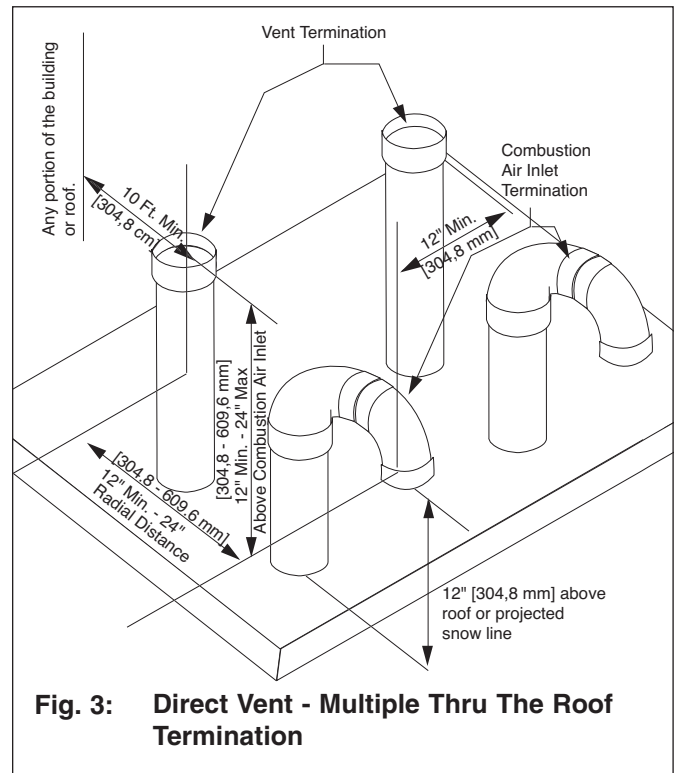

Fig. 3: Direct Vent - Multiple Thru The Roof Termination
2. The roof penetration of the vent and combustion air piping should be such that the combustion air inlet is a minimum 12 inches [304,8 mm] from the adjacent vent pipe of the other boiler for installations in the U.S. as shown in Fig. 3. For installations in Canada, provide clearances as required by CSA B149.1 or 149.2.